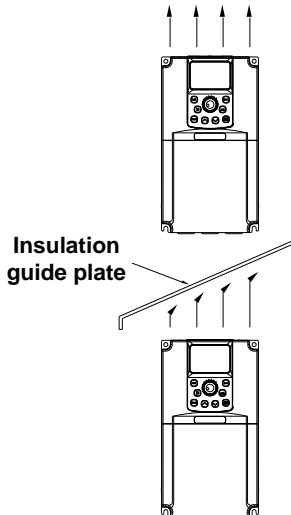

Figure 3.1 JT580 inverter installation diagram
- 1) The inverter should be installed vertically but not inverted for heat distribution. Side by side installing is highly considered for many inverters install in one cabinet. The heat guide plate should be set in vertical install situation, like Figure 3.1.
- 2) The installation space should follow Figure3.1 to ensure radiation space. But other parts heat dissipation should be considered when layout.